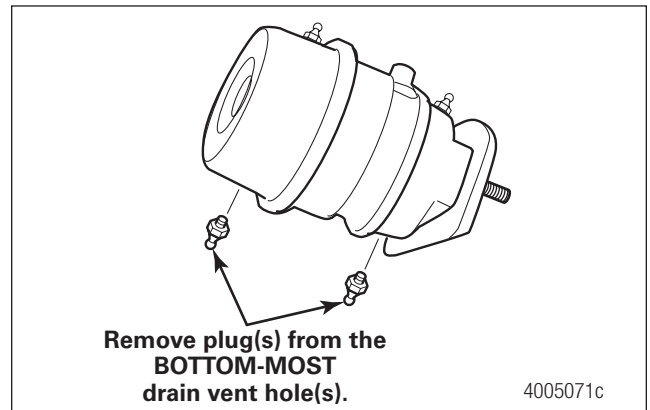

Figure 21
14. Verify the drain holes on the bottom of the chamber are open. If the chamber has plugs in these holes, move them to the top side of the chamber so the bottom holes are open. Figure 21.